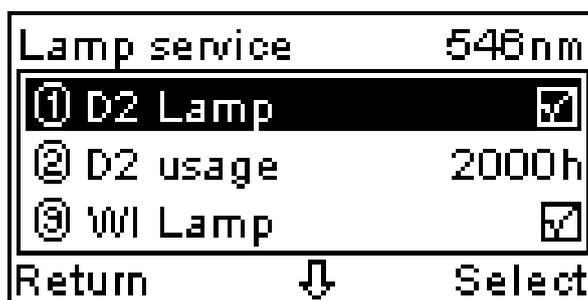

Fig 43
- 【2】** The option “Lamp Service” is designed for the user to find out about Lamp. There are six options, Fig 43.